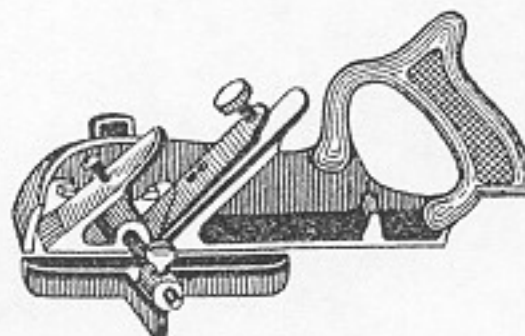

Fig. 168. Rabbet and fillister plane.
67. Making a Rabbet Joint Along the Grain. 1. A special plane called a rabbet and fillister plane is used for this job (Fig. 168). The plane iron is adjusted to cut a shaving of the proper thick-